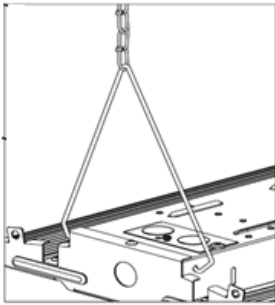

Figure 2
2. Attach the V-Hanger to fixture by hooking the hanger through holes on the Fixture Housing- **See Fig 2.**